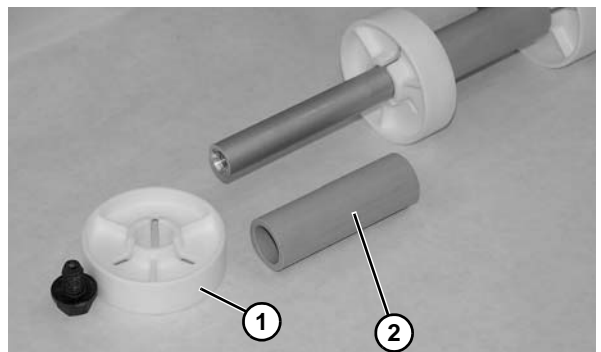

Figure 86
8. Remove idler pucks (**Figure 86, item 1**) and tube spacers (**Figure 86, item 2**), as needed, from each side of assembly.